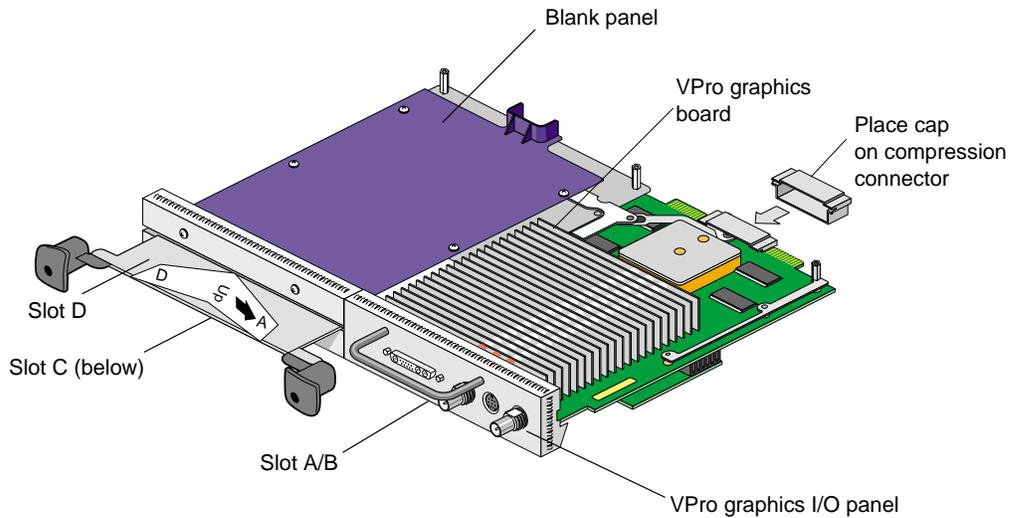
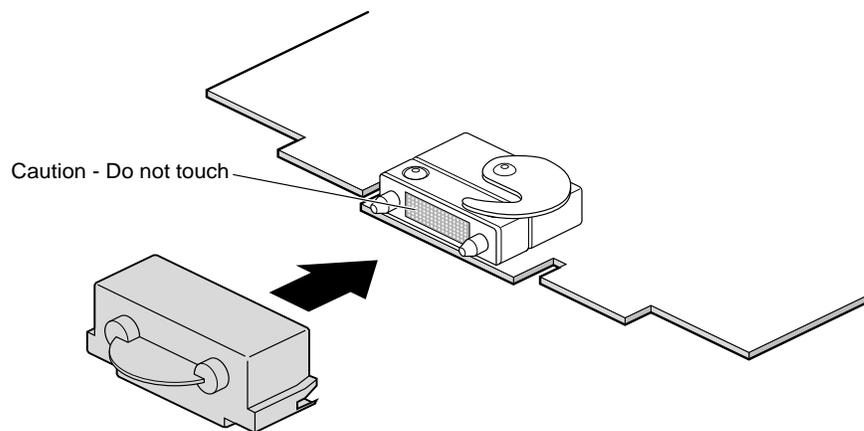

Figure 5-10 Placing the XIO Tri-Module on Its Side
Figure 5-11 Placing a Cap on the XIO Compression Connector
When the XIO Tri-Module is out of the chassis, the sliding handles must protrude, as shown in Figure 5-10. A label identifies each XIO slot, (D and A on one side, C and B on the other). Slot B is a daughterboard slot that is located on the other side of the VPro graphics board.
5. Place a cap on the VPro graphics board compression connector, as shown in Figure 5-10 and Figure 5-11.